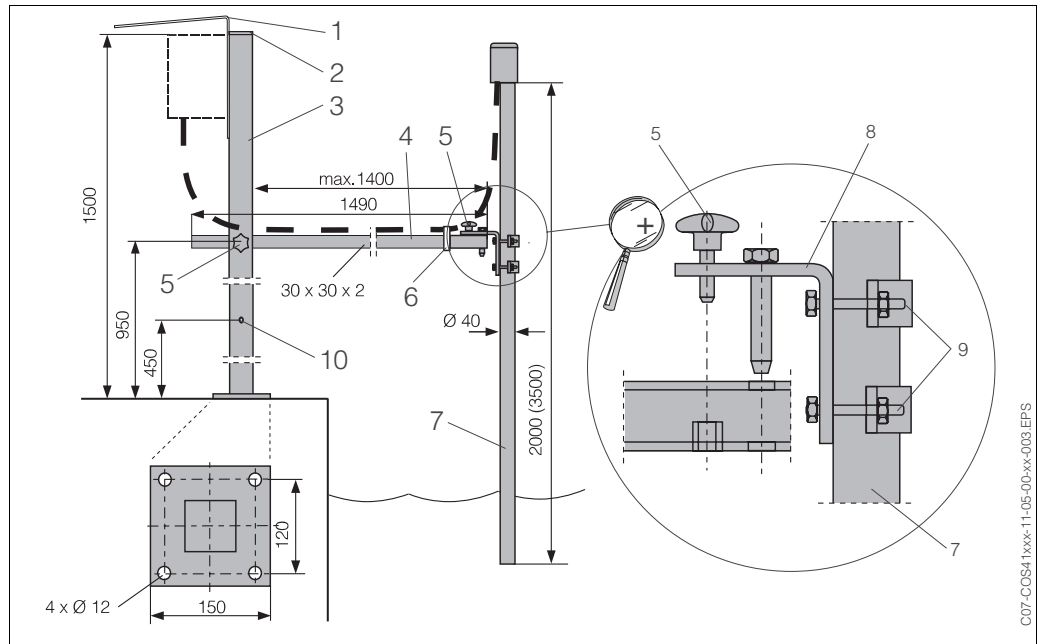

Fig. 3.7: Universal assembly support CYH 101-D or E
The preferable type of installation for strong or turbulent flow (> 0.5 m/s) in the basin or open channels is to secure the device to an **upright post and a securely mounted immersion tube** (Fig. 3.7). If the flow is very strong, a second transverse pipe (10) can be installed with its own pipe support.